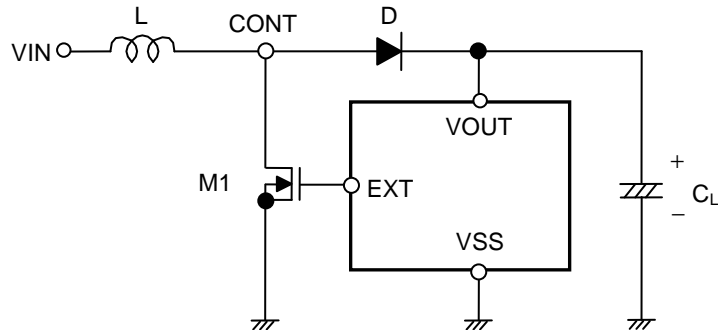

Figure 11 Step-Up Switching Regulator Circuit for Basic Equation
The following are the basic equations [(1) through (7)] of the step-up switching regulator. (Refer to **Figure 11**.)